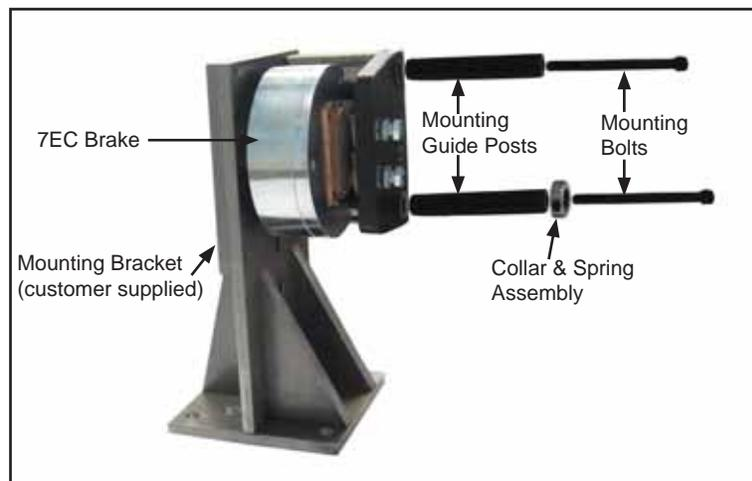

Fig. 4: Mounting Components
- B. Insert the guide Posts and Mounting Bolts shown in Fig. 4. The bolts need to be M12 diameter, class 12.9 DIN 912 (as supplied by Stearns), or 1/2" diameter, ASME/ANSI B18.3.
- E. Slide the disc assembly onto the shaft, but do not yet tighten down its position on the shaft. Slide the brake onto the guide posts, and over the disc. The brake can be mounted as shown in Fig. 4, or in the opposite orientation with the brake side away from the mounting
The preferred location is such that the disc is closer to the shaft support bearing. Position the disc between the friction pads, while keeping enough room along the guide post to mount the collar & spring assembly (also shown in Fig. 4).
- F. Mount the collar and spring on one of the Guide Posts, on the “back” side of the mounting bracket, as shown in fig. 4. Position the collar such that the wavy spring lightly pushes the brake away from the disc, eliminating any rubbing between the disc and friction pads. Tighten to secure the collar in place after finding this balance.